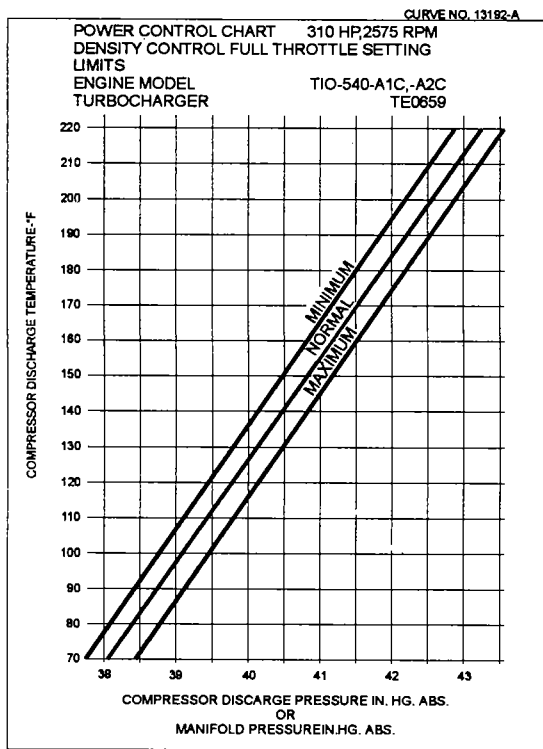
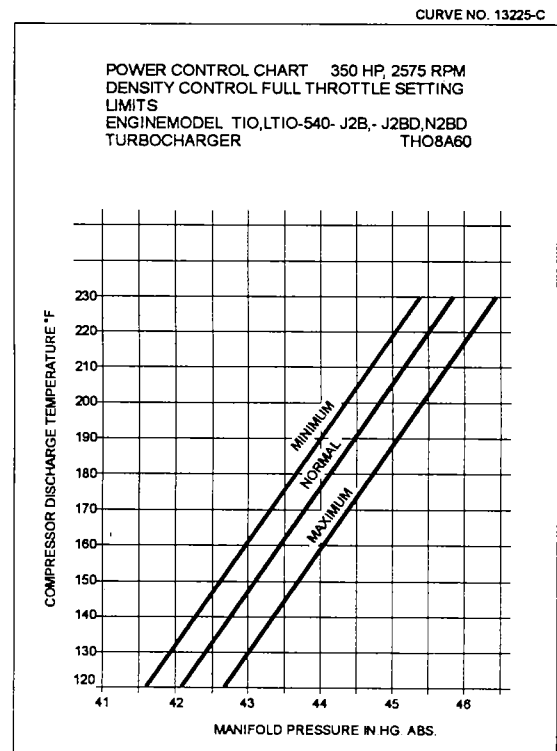
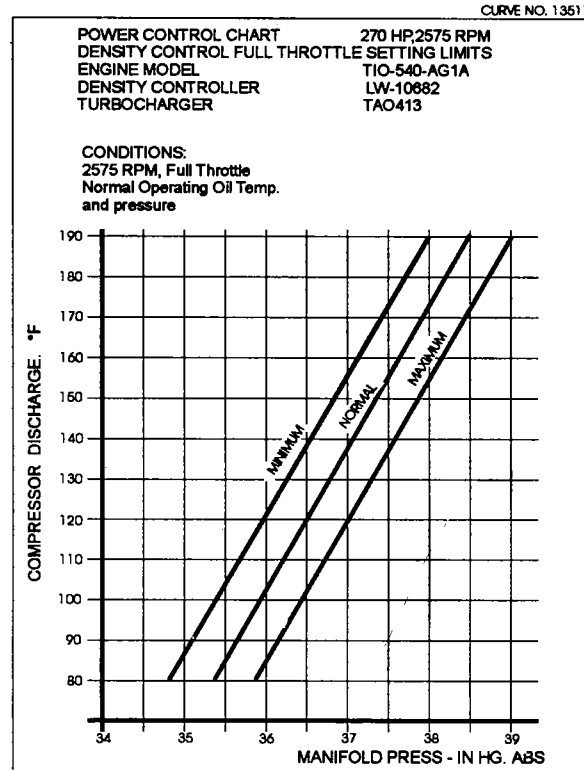

Figure 12. TIO-540-A2C
Figure 13. LTIO/TIO-540-J2B, -J2BD, -N2BD
Figure 18. TIO-540-AG1A
4. Check Induction Air Temperature with Manifold Pressure: Note both engine manifold pressure and compressor discharge temperature at full throttle and compare with the chart shown in Figure 10 for TIO-540-A1A, -A1B, -A2A, -A2B and Figure 11 for TIO-540-C1A. See Figure 12 for TIO-540-A2C and Figure 13 for LTIO/TIO-540-J2B, -J2BD and -N2BD. See Figure 14 for LTIO/TIO-540-F2BD, Figure 15 for TIO-540-AB1AD, Figure 16 for TIO-540-AA1AD, Figure 17 for TIO-540-AF1A, -AF1B, and Figure 18 for TIO-540-AG1A.
NOTE: Revision "J" adds model TIO-540-AG1A, revises Figures 12, 13 and 14.